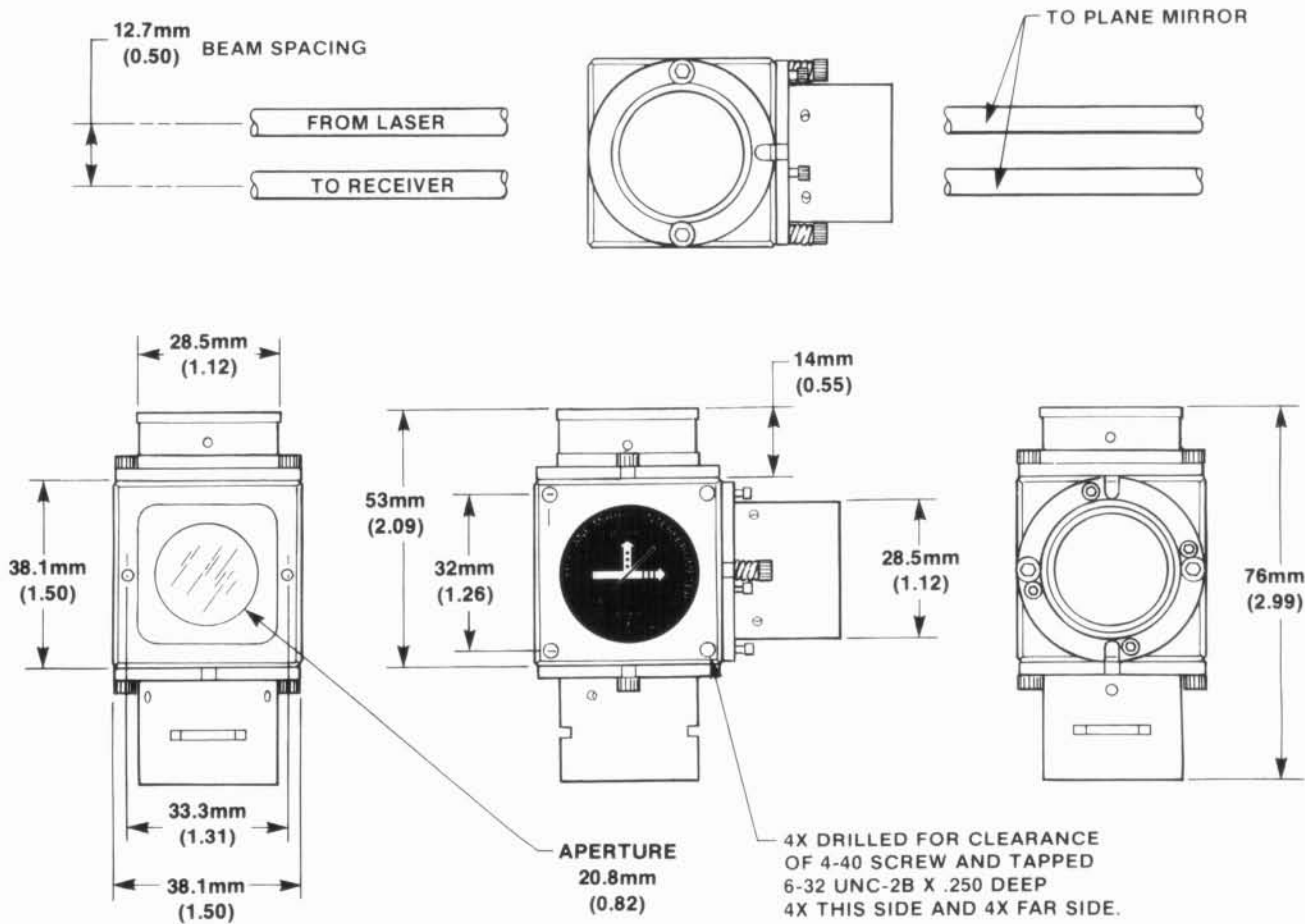

Figure 8-7. HP 10706B High Stability Plane Mirror Interferometer, Specifications and Dimensions
**Dimensions:** See Figure 8-7.